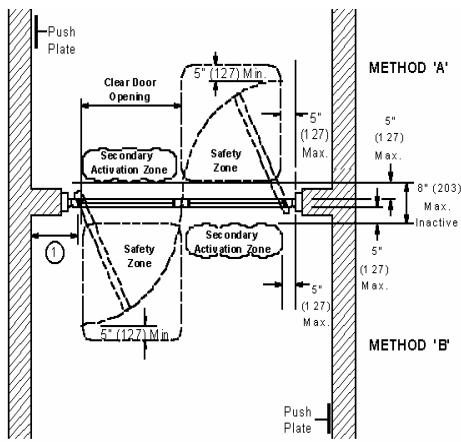

Figure 5
4. Approach the safety side of the door. Have someone else activate the knowing act switch. If the door is equipped with an overhead mounted presence sensor, as long as you are in the safety area of the door, it should not open. (See Figure 5)